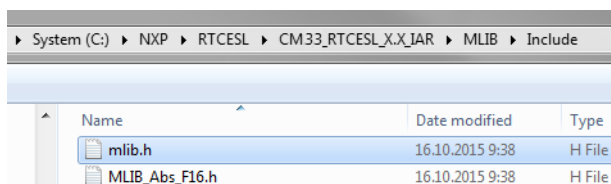

Figure 1-32. Add Files dialog
5. Navigate into the library installation folder C:\NXP\RTCESL\CM33F_RTCESEL_4.6_IAR\MLIB\Include, and select the *mlib.h* file. (If the file does not appear, set the file-type filter to Source Files.) Click Open. See Figure 1-32.